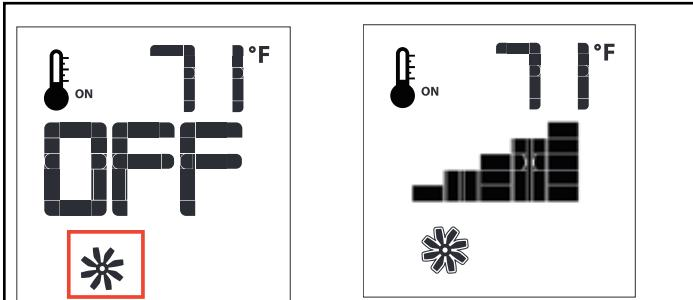

Figure 57- Blower Speed Control
The fireplace is equipped with optional hot air circulating blowers. The speed of the blowers can be controlled by the Proflame system. The blower speed can be adjusted through six (6) speeds. To activate this function use the Mode Key, see **Figures 46 and 47**, **Page 45**, to index to the blower control icon, see **Figure 57**. Use the Up/Down Arrow Keys to turn on, off, or adjust the blower speed. A single "beep" will confirm reception of the command.